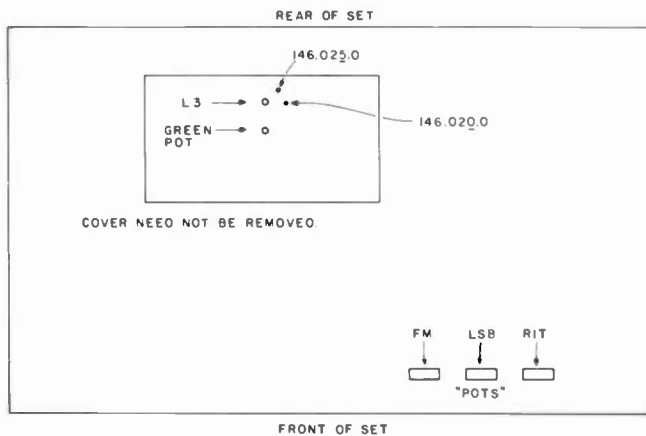

Fig. 3.
3. Repeat steps 1 and 2 as necessary to obtain correct readings, since these steps interact. The newer unit is aligned as follows (see Fig. 3): The rig should be turned on for about 30 minutes to an hour before starting; *all steps must be done in the order indicated*.